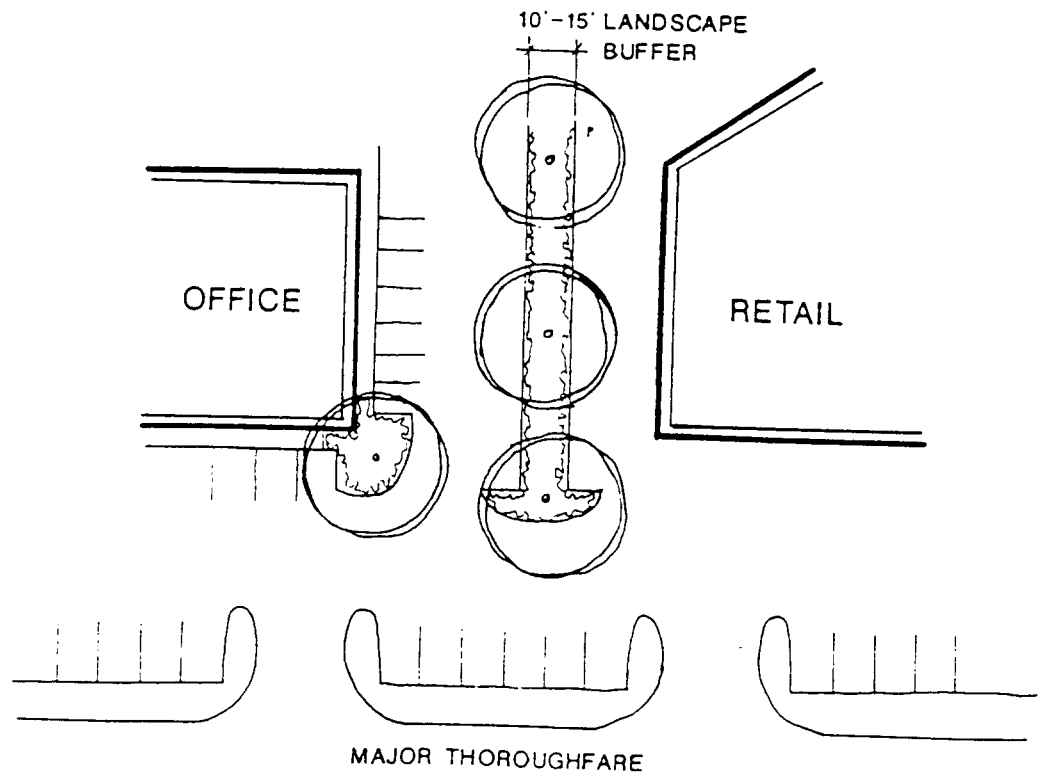

FIGURE 13
- A 10 foot to 15 foot wide landscape buffer should be provided to separate the retail use from other non-residential land uses. A masonry wall or combination wall and landscaping may be substituted for this buffer. (See Figure 13.)